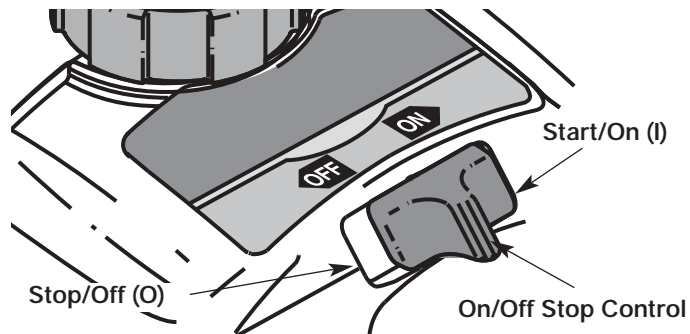
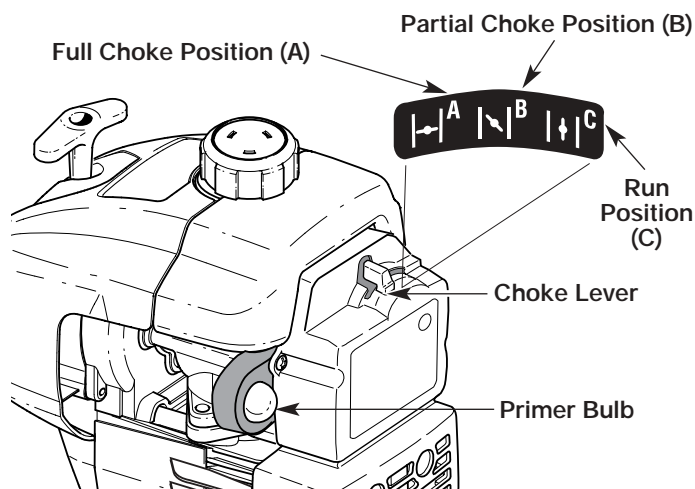

Figure 6
Figure 7
2. Put the On/Off Stop Control in the **ON (I)** position. See Figure 6.
3. Fully press and release the primer bulb 10 times, slowly, until **FUEL IS VISIBLE IN THE PRIMER BULB**. See Figure 7. If you can't see fuel in the bulb, press and release the bulb as many times as it takes before you can see fuel in it.
4. Place the choke lever in the **FULL** choke (A |←|) position. See Figure 7.
6. Place the choke lever in the **PARTIAL** choke (B |↘|) position. See Figure 7.
NOTE: If the engine floods while trying to start, place the choke lever in the **RUN** (C |↑|) position. See Figure 7. Squeeze the throttle control. Pull the starter rope briskly. The engine should start within three (3) to eight (8) pulls.
9. Squeeze the throttle control to warm up the engine for 5 to 10 seconds. Place the choke lever in the **RUN** (C |↑|) position. See Figure 7.
NOTE: Choking is unnecessary when starting a warm engine. Put the On/Off Stop Control in the **ON** position (Figure 6), and start in **PARTIAL** choke (B |↘|) position (Figure 7). After starting, place the choke lever in the **RUN** (C |↑|) position.
2. Put the On/Off Stop Control in the **OFF (O)** position. See Figure 6.